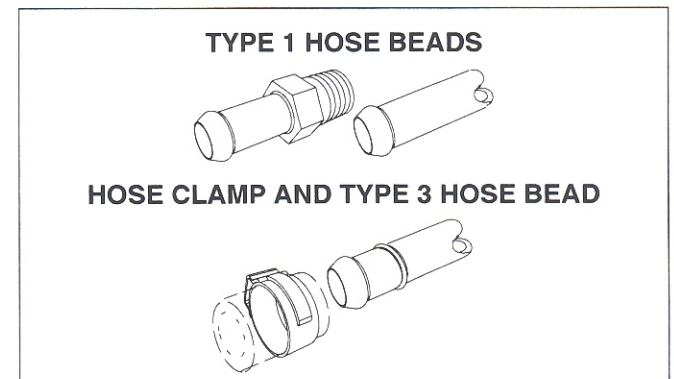

FIGURE 13. DOUBLE-FLARE SAE J1231 HOSE BEADS AND STEPLESS EAR CLAMP
Use stainless steel stepless ear clamps to connect the fuel lines to the genset (Figure 13). Onan P/N 0503-1951-13, Oetiker P/N 16700013 or equivalent are **required**.
- **Hose Beads:** Use suitable tooling to form tubing ends into SAE J1231 Type 1 or Type 3 double-flare hose beads (Figure 13)—*recommended* for all tubing and fittings for fuel return.
- **Hose Clamps:** Use stainless steel stepless ear clamps (Figure 13). Onan P/N 0503-1951-11, Oetiker P/N 16700011 or equivalent are *recommended*.